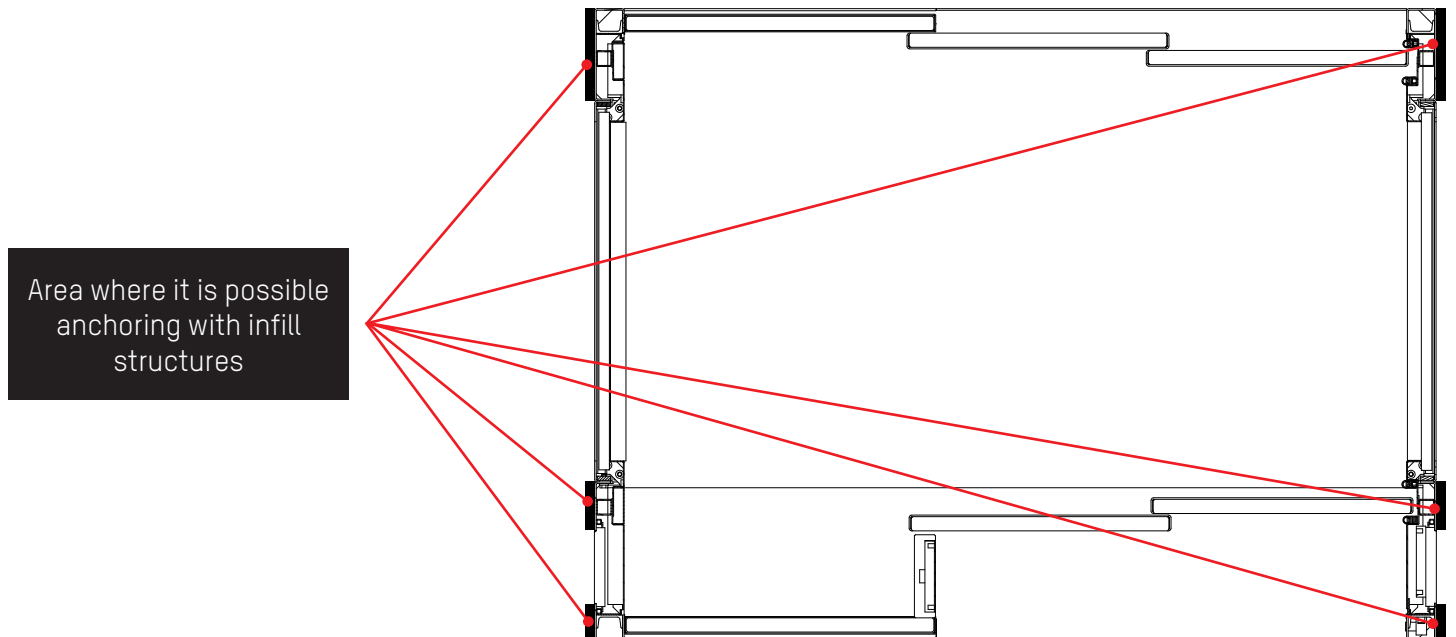

Fig. 20 - Area where it is possible anchoring with infill structures
There are two possibilities to anchor the booth to the insertion structures (⇒ Fig. 20):
For the possibilities of anchoring the bush to the infill structures (⇒ Fig. 20).
2. Position yourself with the infixing to the anchoring area prechosen on the booth (⇒ Fig. 20).